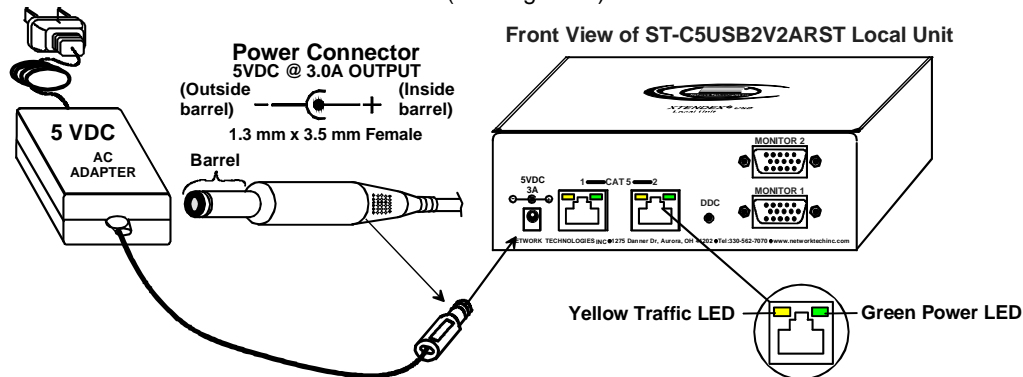

Figure 6- Connect the AC adapter(s)
2. Connect each AC adapter power connector to the 5VDC ports on the Remote and Local Units. (Model ST-C5USBVT only has a power supply at the Remote Unit. The Local Unit is powered by the CPU.) Plug each AC adapter into a power outlet. The green LED on the RJ45 connector of both the Remote and Local Units should illuminate, indicating that a proper power connection has been made to them. (See Figure 6.)
**Note:** The yellow LED on RJ45 connector “CAT5 #1” will illuminate and “CAT5 #2” will blink anytime data traffic is passing between the Local and Remote Units, indicating proper CAT5 cable connection and communication. (See Figure 6)